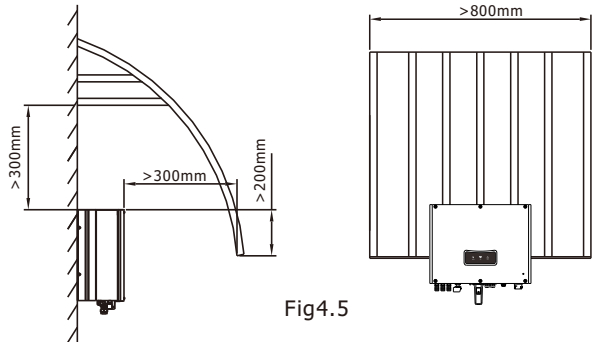

Fig4.5
- ▶ Recommend awning installation, the purpose is to extend the inverter service life and reduce the power derating of the inverter. The dimension of the awning, refer to fig4.5